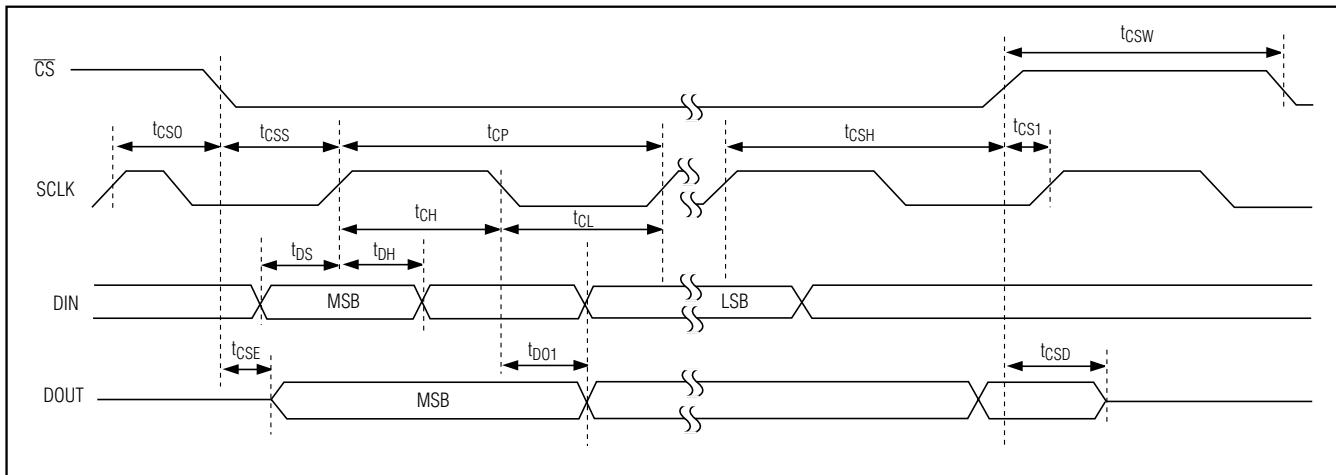

Figure 6. SPI-Interface Timing Diagram
The MAX5550 is compatible with the 3-wire SPI serial interface (Figure 6). This interface mode requires three inputs: chip-select (CS), data clock (SCLK), and data in (DIN). Drive CS low to enable the serial interface and clock data synchronously into the shift register on each SCLK rising edge.